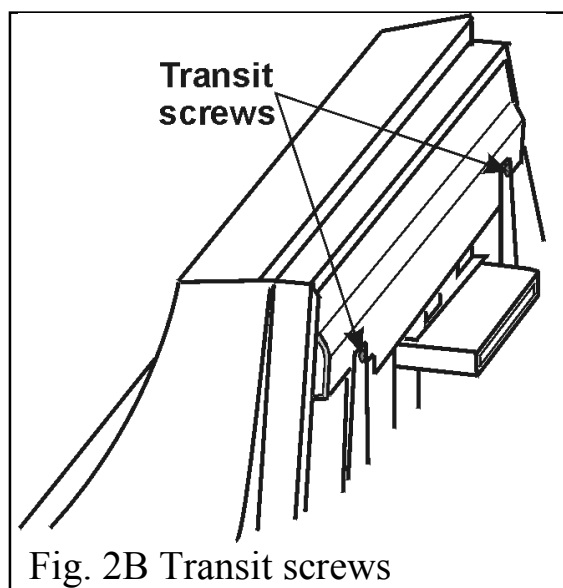

Fig. 2B Transit screws
3.3.2 Remove the two transit screws from near the top of the back panel extensions. See figure 2B.